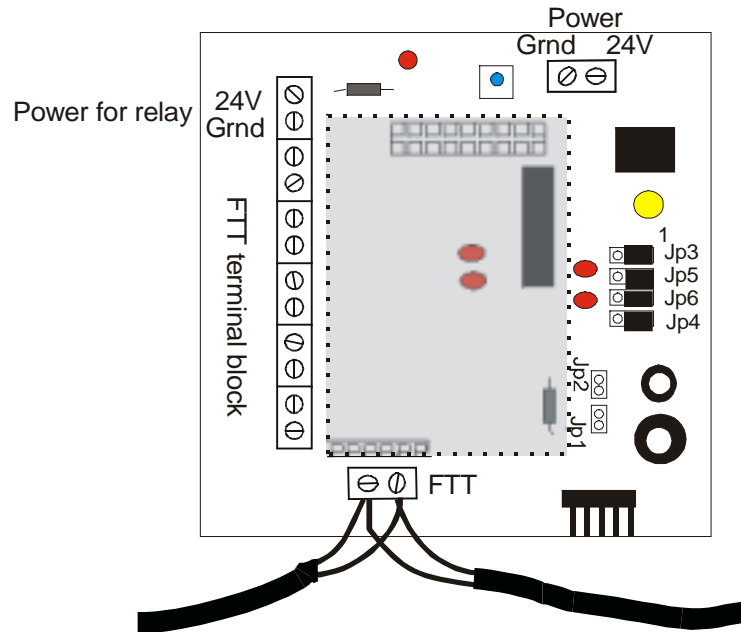

Figure 11 FTT Motherboard. Gray area notes location of the LonWorks daughterboard.
- Step 2:** Insert the twisted pair wire into the terminal block labeled FTT in Figure 11 in the Serial Gateway and run it out the conduit chase.
- Step 2:** Insert the twisted-pair wire into the terminal block labeled FTT (Figure 11) in the first Reader and run it out the conduit chase.
The FTT Reader has two outputs to control devices. These outputs can be found on the FTT Terminal block (Figure 11).